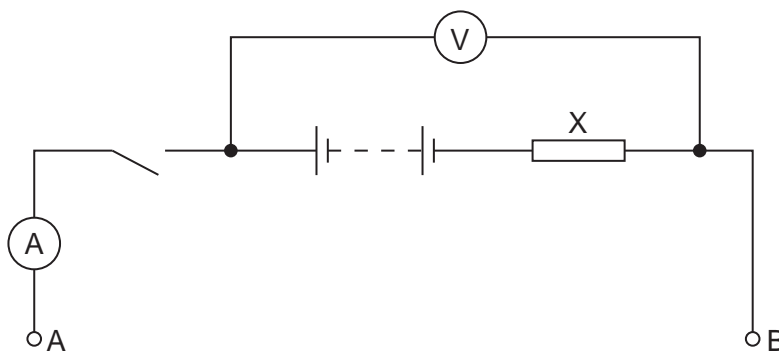

Fig. 4.1
3. The Supervisor should set up the apparatus as shown in Fig. 4.1. The terminals A and B should be clearly labelled.
5. At the changeover, the apparatus should be restored to its original state as in Fig. 4.1, removing any resistors between A and B. If cells are used, they should be checked and replaced, if necessary.